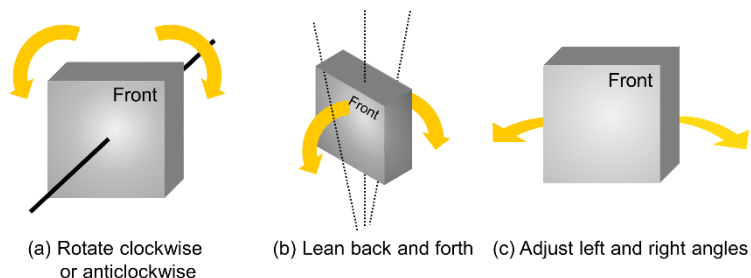

Figure 10. Three directions that allow the grating to move.
Grating is able to move in three directions as shown in Figure 10. The directions adjusted are (a) and (b). Figure 10-(c) indicates the direction in which can be moved by hand without the motor cable connection.
- e. Carefully rotate the grating clockwise or counterclockwise so that the spectrum is horizontal position. (refer to Figure 10-(a)).